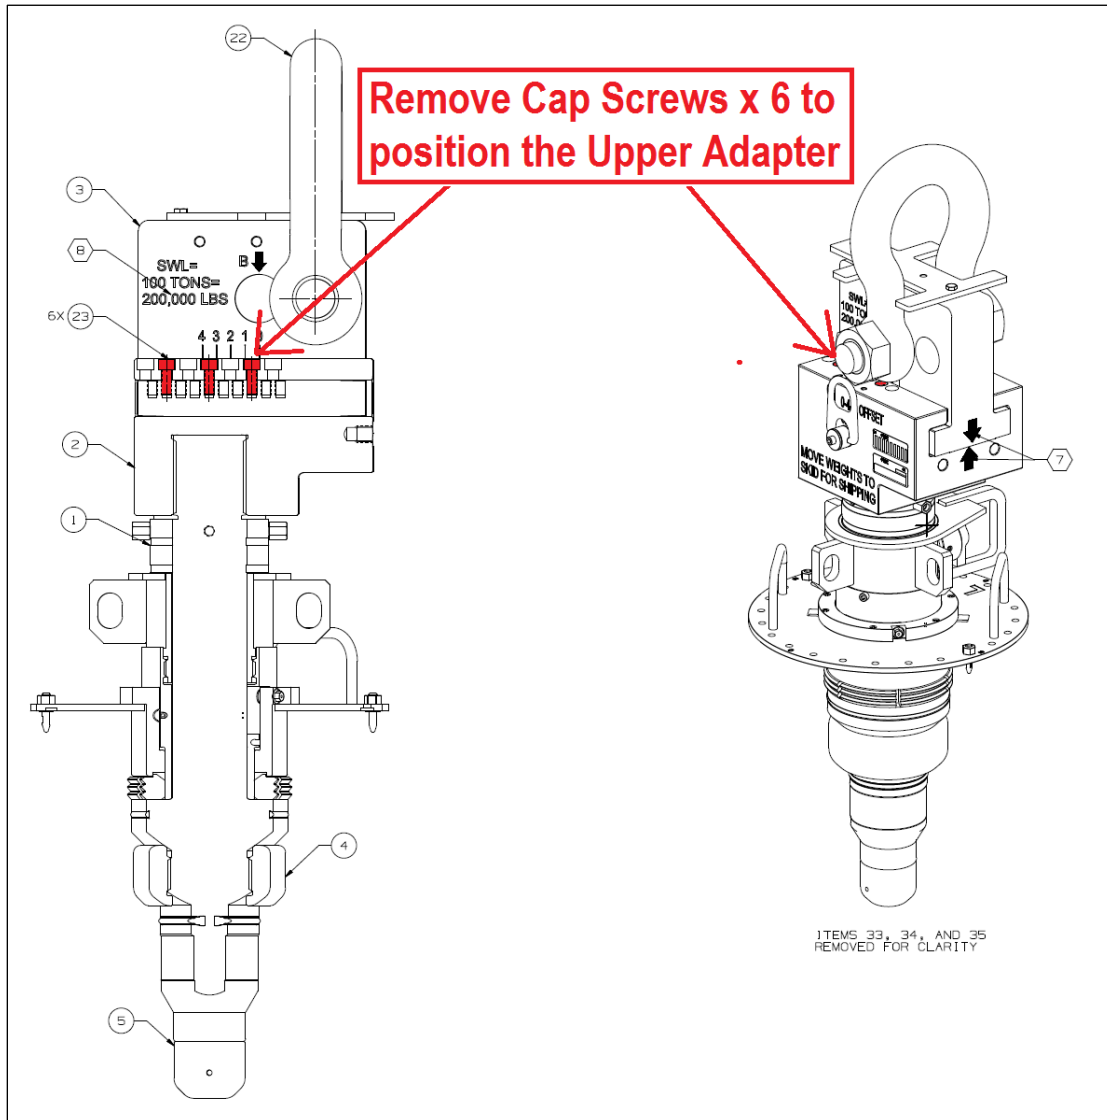

Figure 5: Linear Offset Cap Screw Location
2. To adjust the linear offset, remove Qty. 6 fasteners from either side of the Lower Adapter (item 2) as shown below. Note that the shackle may need to be left off until the fasteners are reinstalled if shackle will be in the "B" position. See right side of Figure 5.